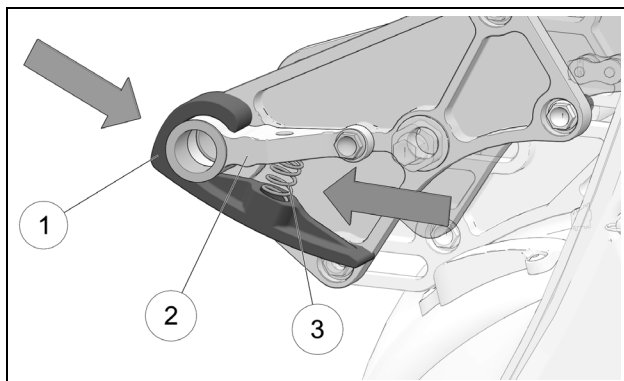

Figure 21
- Insert Chain tensioner (1) on mount adapter (2) installed on left side of Bike mount. Apply pressure to insert guard on larger part of adapter. Next, insert the chain tensioner spring (3) in its seats, in the Chain tensioner and mount adapter. See Figure 21.